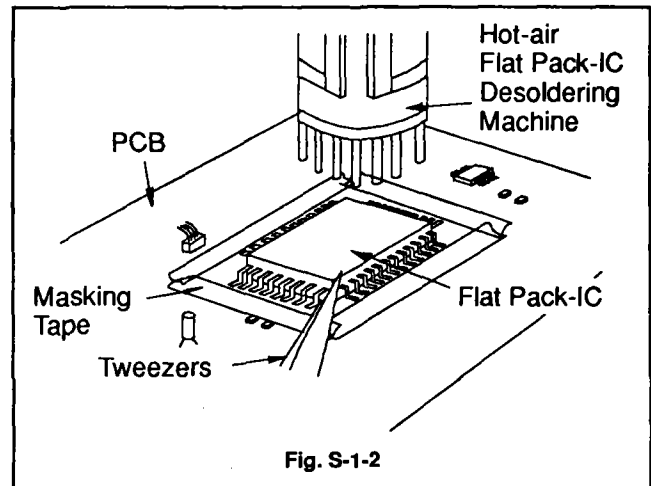

Fig. S-1-2
- Do not apply the hot air to the chip parts around the Flat Pack - IC for over 6 seconds as damage may occur to the chip parts. Put Masking Tape around the Flat Pack-IC to protect other parts from damage. (Fig. S-1-2)